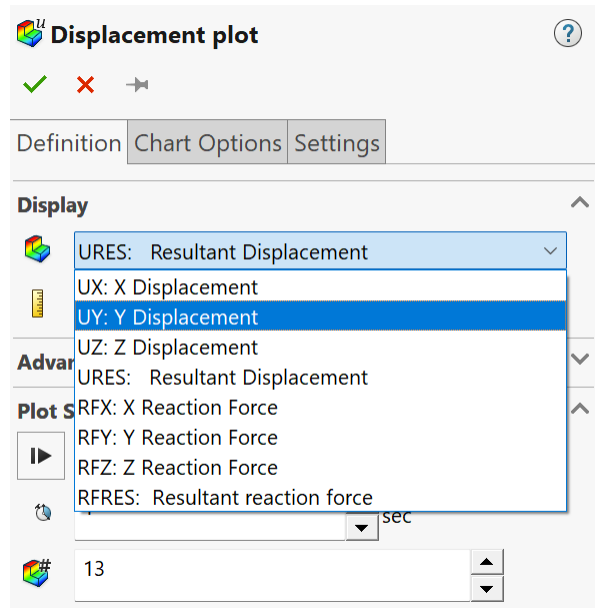
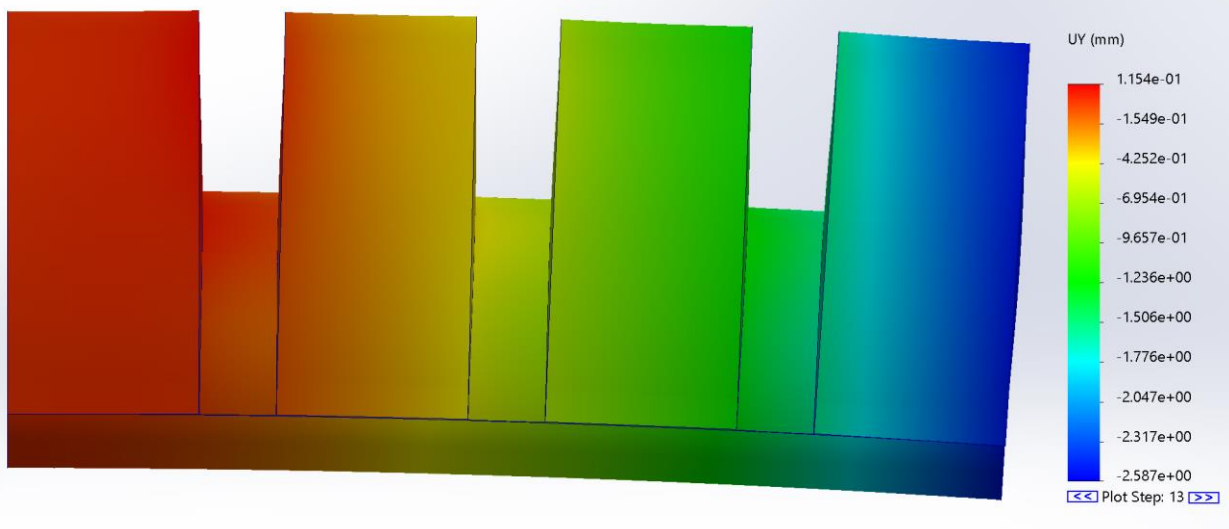

Figure 17: Displacement Selection
Figure 18: Y-Displacement Plot
- A. When viewing results, it is important to view the desired data. In the case of the smart nozzle, displacement is of the most interest. To view displacement results, simply double click “Displacement” under the results tab. Solidworks simulation defaults to resultant displacement which isn’t much help when looking for coordinate oriented displacement. Luckily, we are able to select planar displacement. To do so, right click on “Displacement” and click edit definition. Once in the displacement definition menu, click on the “Display” drop down menu for displacement type and select “UY: Y Displacement” (Figure 17). Once selected, the plot of the model will change and will present the correct displacement values to the right of the model (Figure 18).